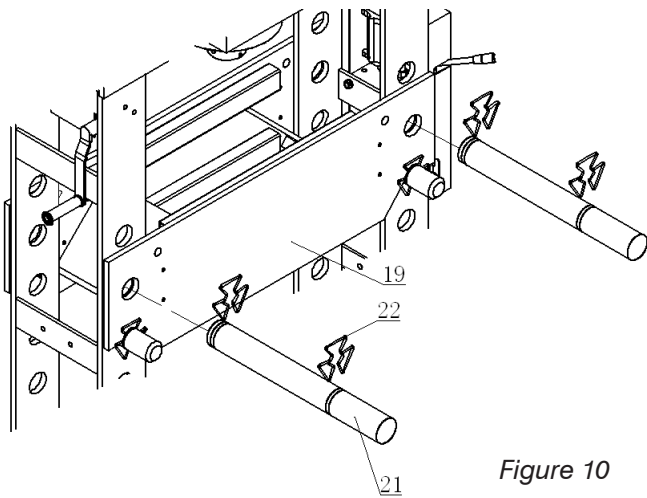

Figure 10
Adjust the bed (19) according to Section 13 to the appropriate height, then insert the pins (21) to the holes of body frame and lock the circlips (22). (fig. 10 & 11)